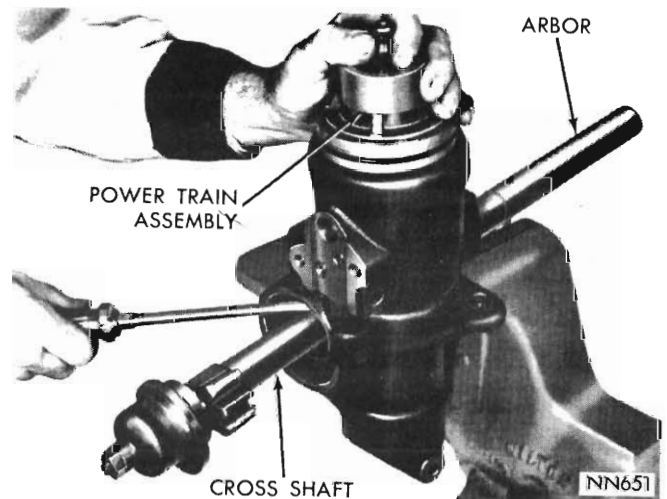

Fig. 12 – Removing power train (typical)
(7) Position the holding Tool E19C5A so that the sector shaft is in a horizontal position, place Tool E19C20 on the threaded end of the gear shaft, and withdraw the gear shaft whilst sliding the tool into the housing until the tool is engaged with both the shaft and the bearings (Fig. 12).
(9) Whilst holding the power train firmly compressed, pry on the piston teeth with a screwdriver using the gear shaft and tool as a fulcrum, and remove the complete power train (Fig. 12). Remove the gear shaft, leaving Tool No. E19C20 engaged in both gear shaft bearings.